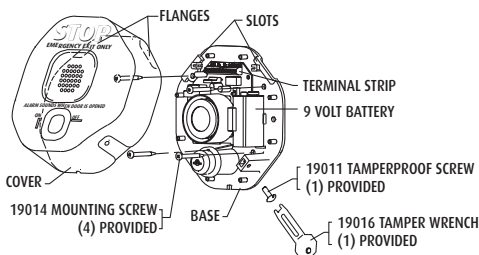
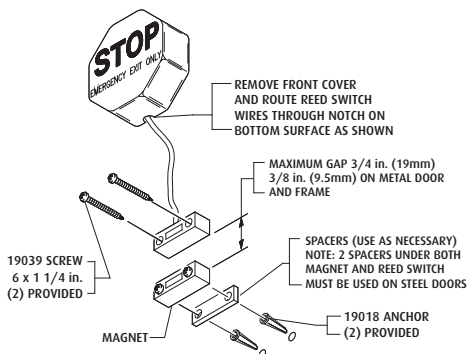

FIGURE 2
FIGURE 3
2. Remove tamper screw on side of unit and remove housing cover. Save this tool for future servicing and battery change (Figure 2).
5. Mount main unit on or next to door using hardware provided. Reed switch mounting locations can be moved to one of the four positions shown in figure 2. If mounted next to door, route reed switch wire through knockout in bottom of housing as shown in figure 3.